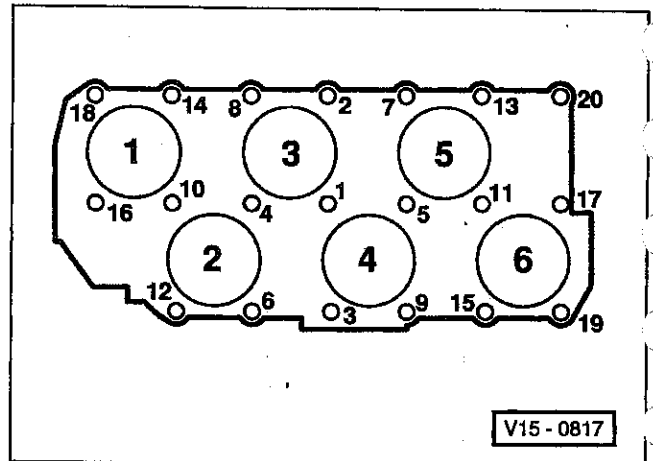

Fig. 21. Cylinder head bolt tightening sequence.
7. Loosely install the new head bolts with the washers. Then tighten the bolts in stages following the sequence shown in Fig. 21.